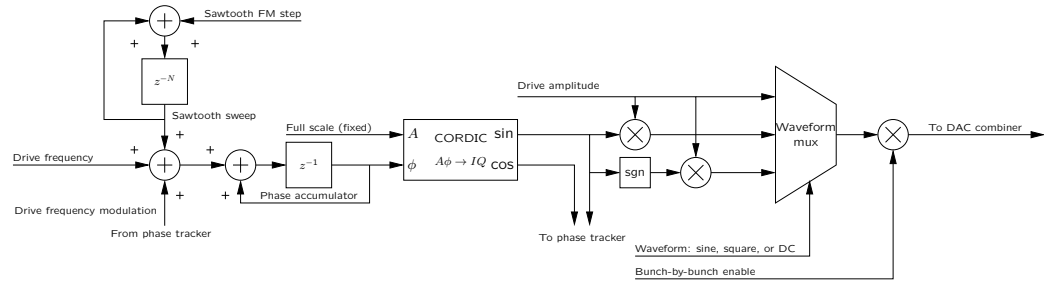

Figure 15: Drive source block diagram
Three independent drive sources are available in iGp12-592F **FPGA**, 0, 1, and 2. Each source is based on an **numerically controlled oscillator (NCO)** with sawtooth **frequency modulation (FM)** capability and bunch-by-bunch enable. Four output waveform types are supported: sinusoidal, square, triangular, and **direct current (DC)**. Block diagram of a drive source is shown in Figure 15.